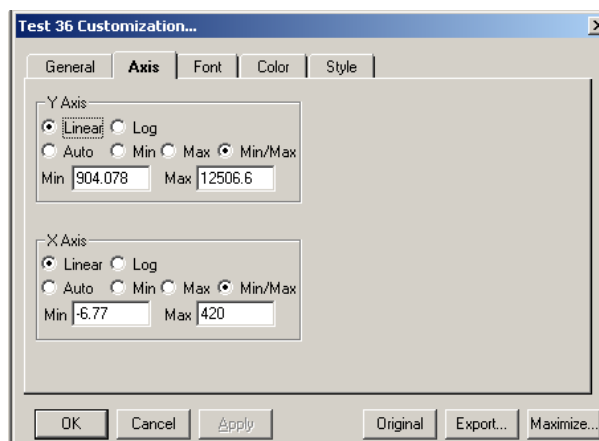

Figure 5-89 Customization Dialog Box—Axis Tab
- **Axis Tab**—Use the Axis tab to change your X axis and Y axis values and specify whether to display them as linear or log. See Figure 5-89.